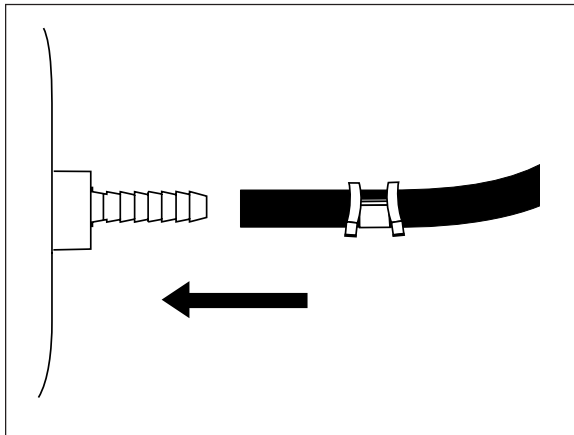

Figure 6
6. Push the air line onto the stem, covering all the barbs (Figure 6). With the pliers, slide the air line clamp upward until it fully covers the barbed section.
7. Push the remaining air line over the last fitting on tee and route along frame to desired inflation valve location (Figure 6). Attach with plastic straps or wire.
- Push the air line onto the stem, covering all the barbed section (Figure 6). With pliers slide the air line clamp forward until it fully covers barbed section.